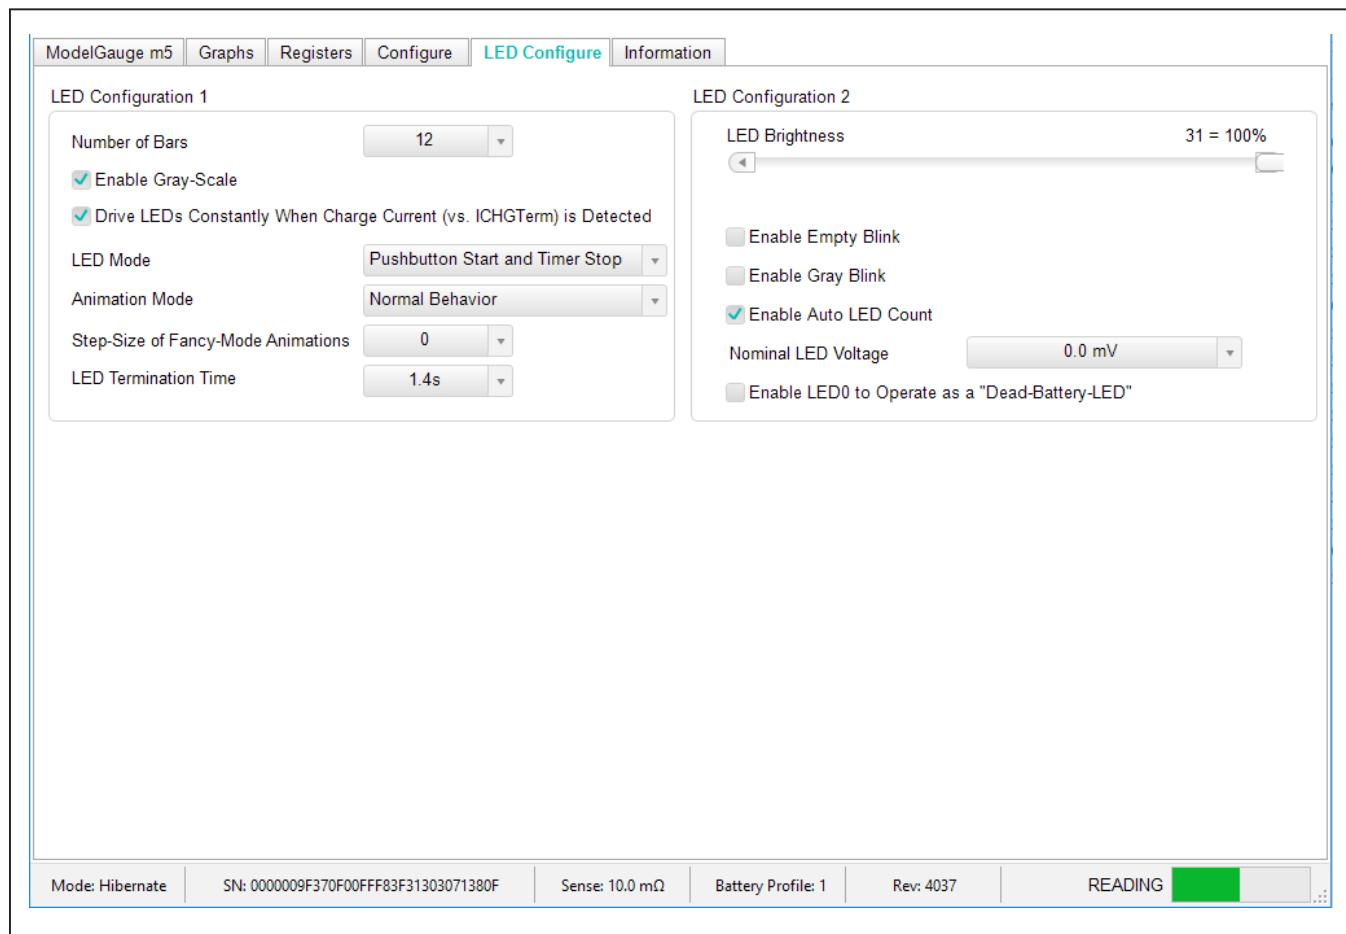

Figure 9. LED Configuration Panel
LED operation can be customized through the **LED** tab, as shown in Figure 9. Functionalities include changing the number of LEDs, changing LED brightness, and choosing LED modes. There are four operation modes to choose from: (1) The “Pushbutton Start and Timer Stop” option is the default setup, where the LED lights up